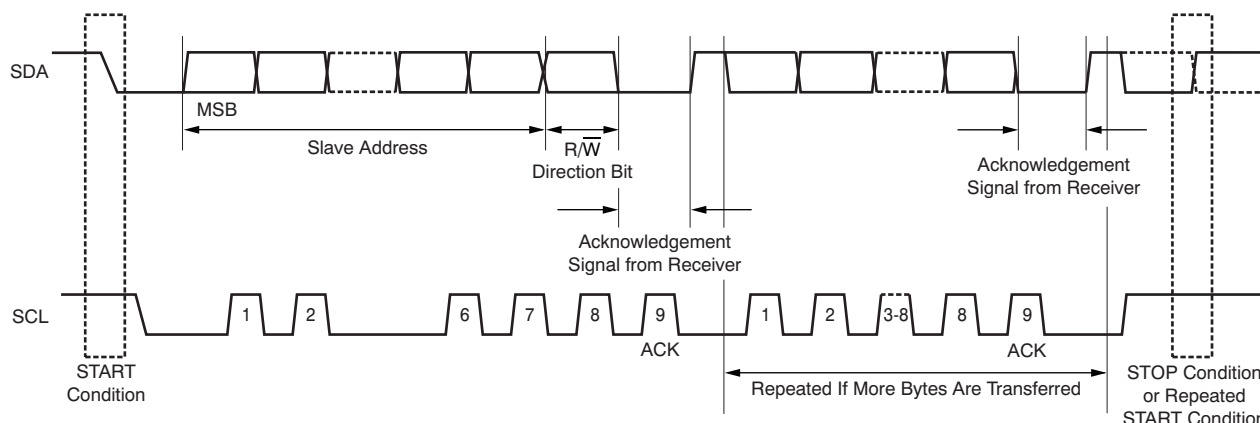

Figure 29. Complete Fast- or Standard-Mode Transfer
The following bus protocol has been defined (see Figure 29):
Figure 29 details how data transfer is accomplished on the I²C bus. Depending upon the state of the R/W bit, two types of data transfer are possible:
In the serial transfer format of F/S mode, the master signals the beginning of a transmission to a slave with a START condition (S), which is a high-to-low transition on the SDA input while SCL is high. When the master has finished communicating with the slave, the master issues a STOP condition (P), which is a low-to-high transition on SDA while SCL is high, as shown in **Figure 29**. The bus is free for another transmission after a STOP condition has occurred. **Figure 29** shows the complete F/S mode transfer on the I²C, 2-wire serial interface. The address byte, control byte, and data byte are transmitted between the START and STOP conditions. The SDA state is only allowed to change while SCL is low, except for the START and STOP conditions. Data are transmitted in 8-bit words. Nine clock cycles are required to transfer the data into or out of the device (8-bit word plus acknowledge bit).